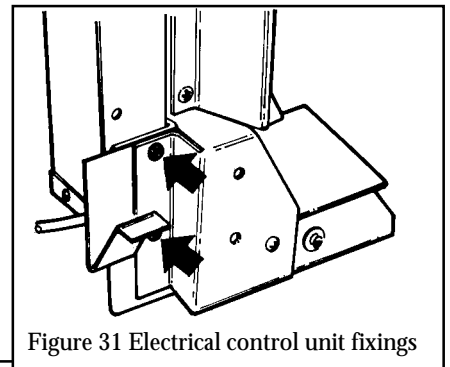

Figure 31 Electrical control unit fixings
14.9.2 Detach the control unit from the convection box left side flange by removing two screws (see figure 31). Carefully pull the unit slightly forward.